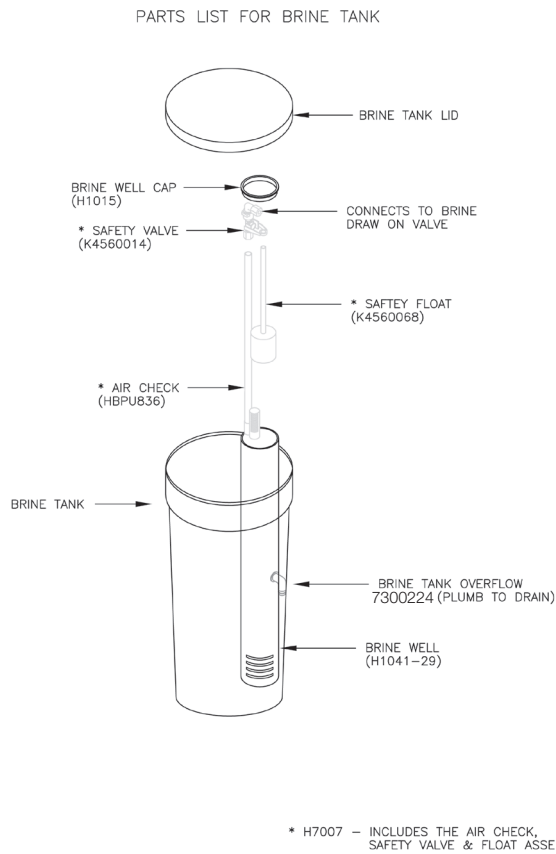

Figure 17
- 1. Normal Operation Position:** The inlet and outlet handles point in the direction of flow indicated by the engraved arrows on the control valve. Water flows through the control valve during normal operation and this position also allows the control valve to isolate the media bed during the regeneration cycle. (See Figure 17)